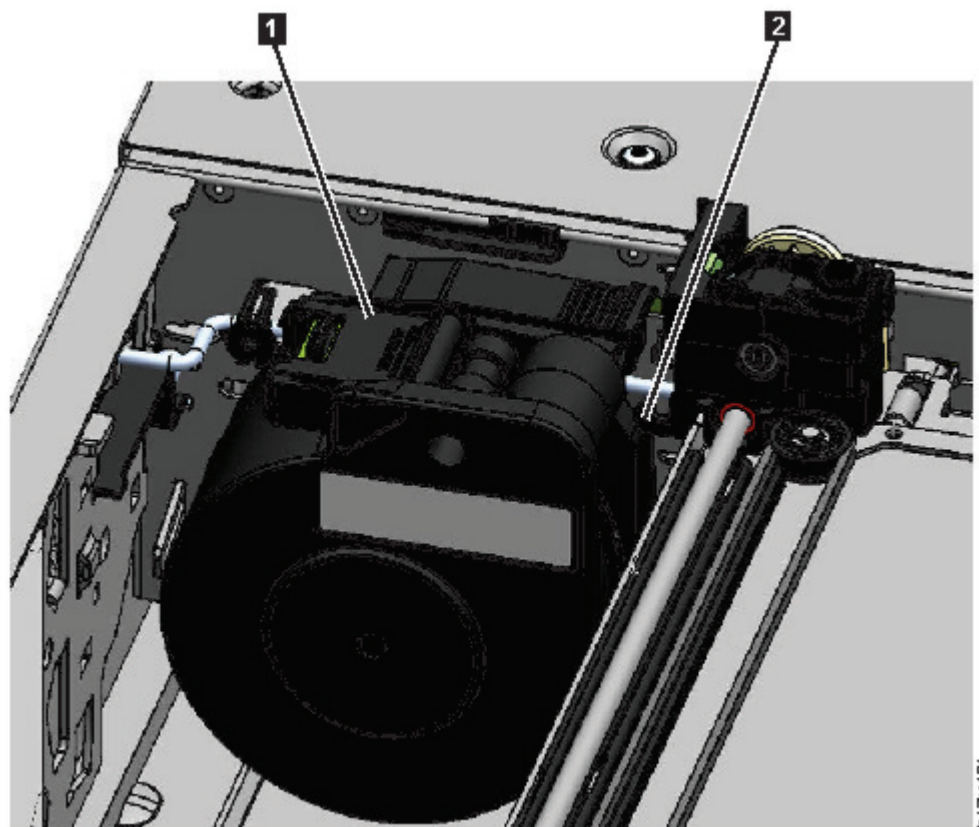

Figure 74. Spooling cable in park position
Note: Note where the end of the spooling cable pivots in the accessor. It is important to know when you attach the new spooling cable to the accessor. See 2 in Figure 74 on page 134.
9. Place the spooling connector (**1** in Figure 74 on page 134) to the park position.